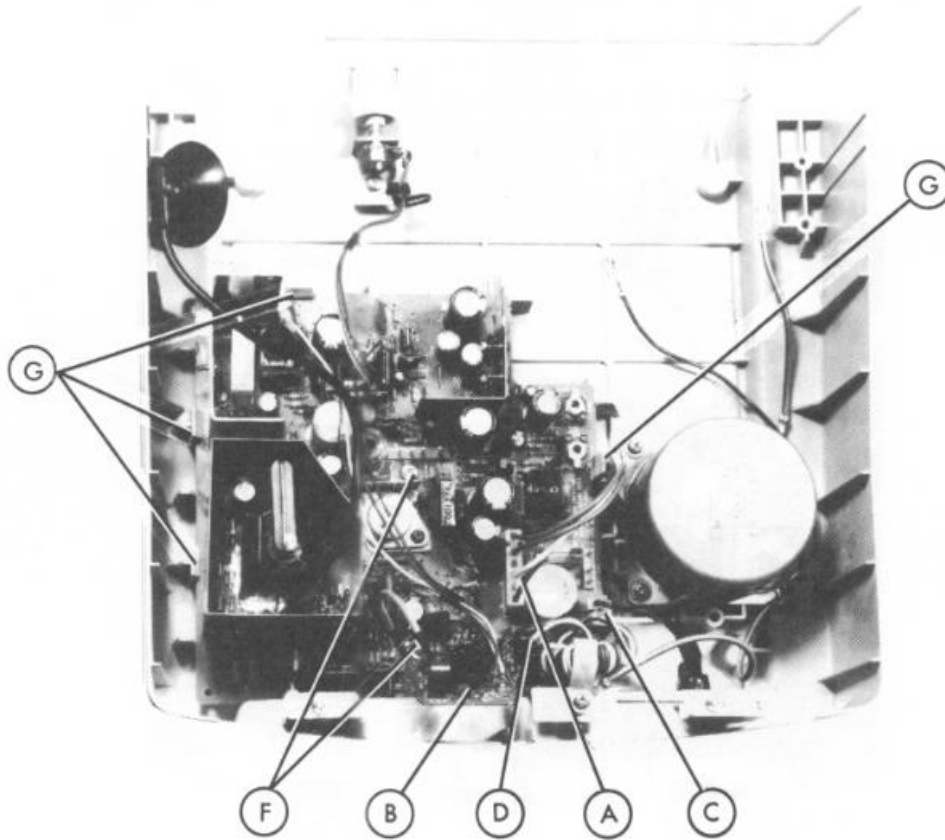

FIGURE 4-20. MONITOR CIRCUIT BOARD REMOVAL/REPLACEMENT
1. Position the transformer connector (A) on the lower case and insert four screws (C).
2. Connect the transformer and the CRT circuit board (B).
4.5.7 Monitor Circuit Board Removal (Figure 4-20)
4.5.8 Monitor Circuit Board Replacement (Figure 4-20)